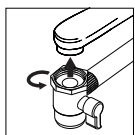

Figure 1.1
- Tighten the filter housing (A) with a wrench (F). **[Figure 1.1]**